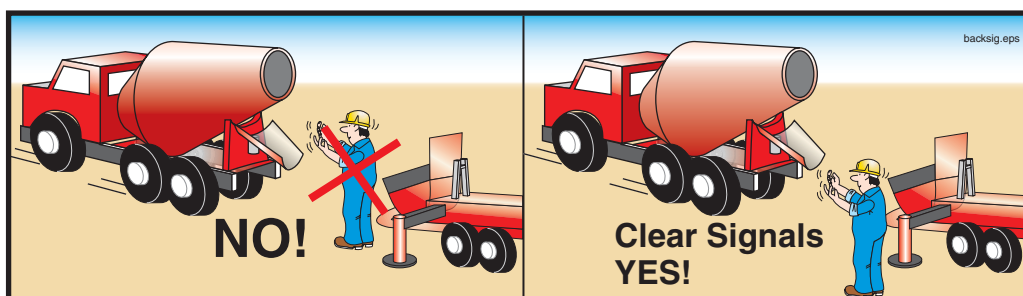

Figure 13
- 6.6 **⚠ WARNING** **Crushing hazard! Never, ever** position yourself between a ready mix truck and the pump! Stand off to the side, so the ready mix driver can see you at all times (Figure 13).
- 6.7 **⚠ WARNING** When backing in ready mix trucks, use clear and concise hand signals (Figure 13).